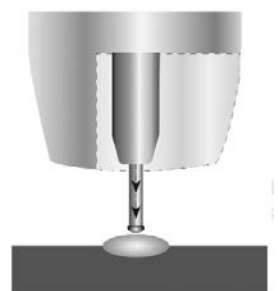

Fig. 33
6. The wire feed speed overcomes the heat of the arc and the wire again approaches the work to short-circuit and repeat the cycle (Fig. 33).